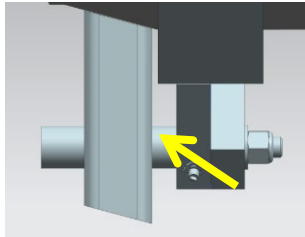

Figure 5: Clamp Ring Pivot Plate Cut Location
- F. Cut pivot pin through the entire cross section. This cut should be made as close to the pivot pin channel as possible, see Figure 5.